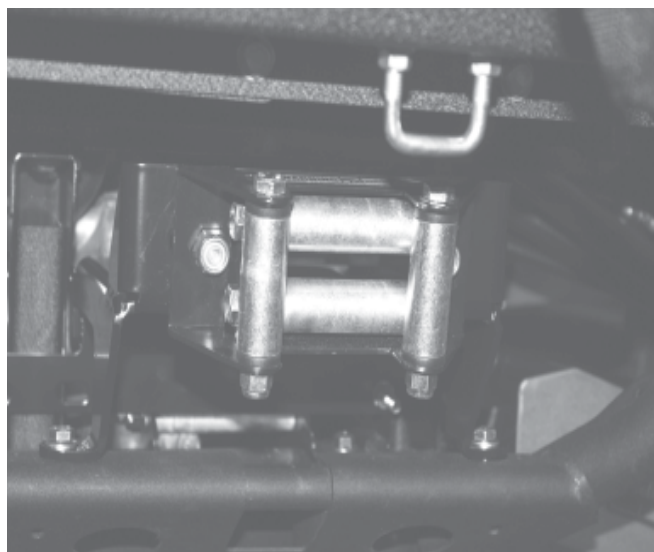

Figure 7
- Attach the roller fairlead to the mounting plate using the hardware that came with the winch, as shown in figure 7. If using the smaller ATV winch, 2500lb or 3000lb winch, then the large 3/8 flat washer (7B) will need to be placed behind the front flange in the mounting plate. This will give the fairlead hex nut a flat surface to tighten down on.